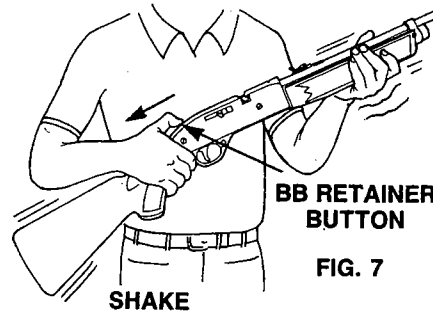

FIG. 7
- Tilt the barrel up just slightly and shake the gun until all the BBs are out of the magazine. (Fig. 7)